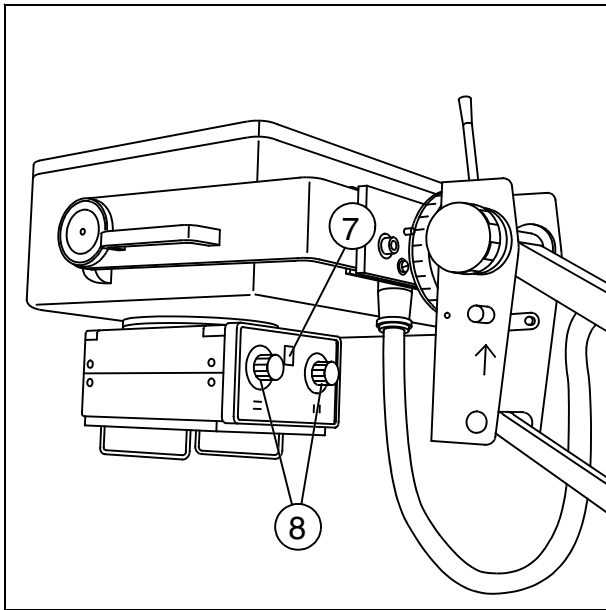
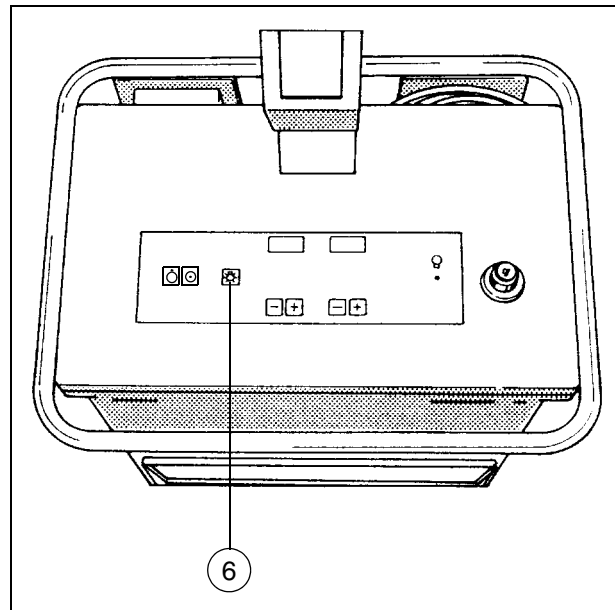

Fig. 9
Fig. 10
- Check the light-beam localizer operated both at the control panel and at the collimator. To do so, press the  button (6/Fig. 10 or 7/Fig. 9), the light-beam localizer lamp lights up for  $20\text{ s} \pm 1\text{ s}$ .
- Check that format adjustment (blades) is easy and smooth by turning the collimator adjustment knobs (8/Fig. 9).